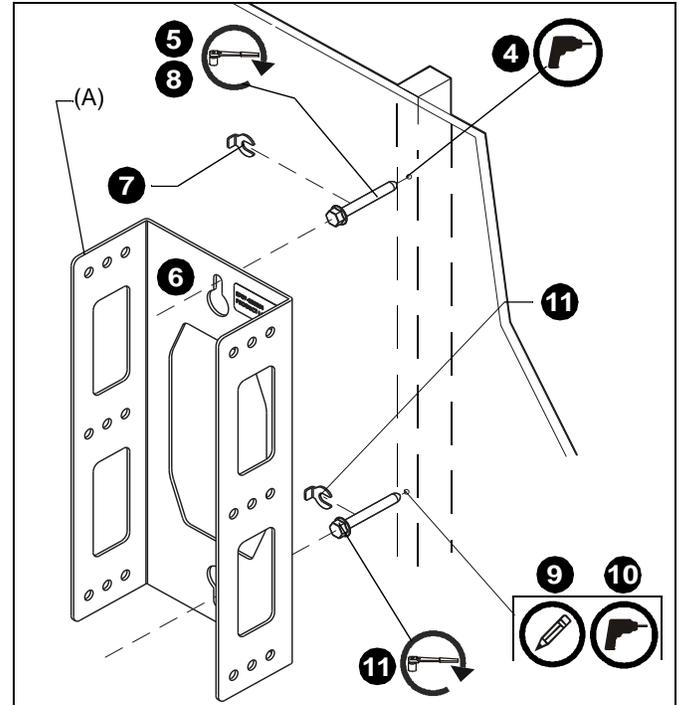

Figure 2
6. Hang wall plate (A) on wall, aligning upper mounting slot over lag bolt.
7. Place one slotted washer (from mounting system hardware) over flanged lag bolt. (See Figure 2)
9. Mark the attachment point for the lower mounting slot, making sure the attachment point is located on the stud. (See Figure 2)
10. Drill 7/32" pilot hole at marking for lower mounting hole. (See Figure 2)
11. Use one 5/16 x 2-1/2" flanged lag bolt and one 5/16" slotted washer (from mounting system hardware) to attach the wall plate (A) to the wall through the lower mounting hole. (See Figure 2)